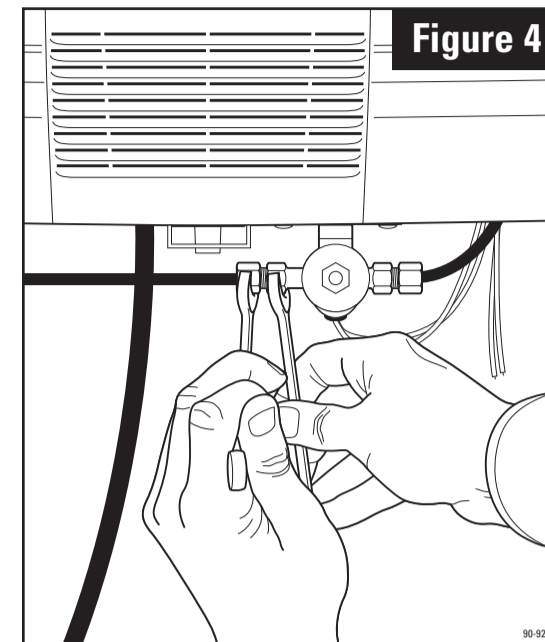

Figure 4
9. Connect tubing from the saddle valve to the inlet side of the solenoid valve using 1/4" O.D. copper tubing (not furnished). **DOUBLE WRENCH TO PREVENT LEAKING! (See Figure 4)**